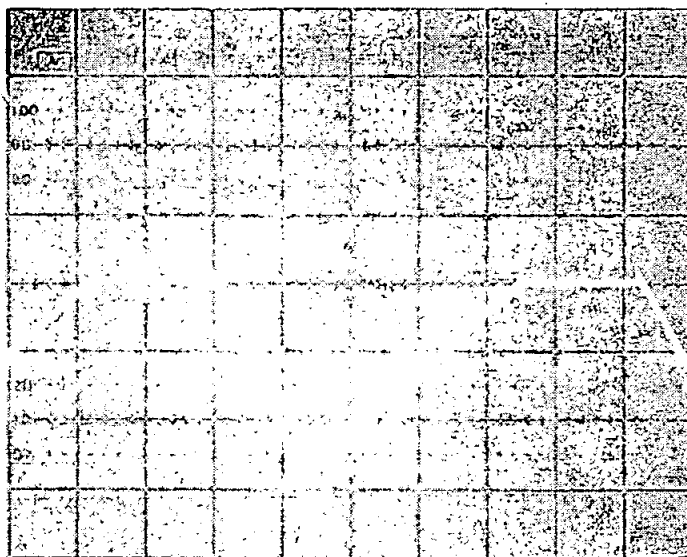

FIGURE 2
2. WITH POWER APPLIED TO THE UNIT CHECK THE INTEGRATOR RAMP VOLTAGE AT PIN 32 (TP4) OF THE A TO D CONVERTER. FIGURE 2 BELOW SHOWS THE SCOPE TRACE FOR THIS TEST POINT AT 0 FEET PRESURE.